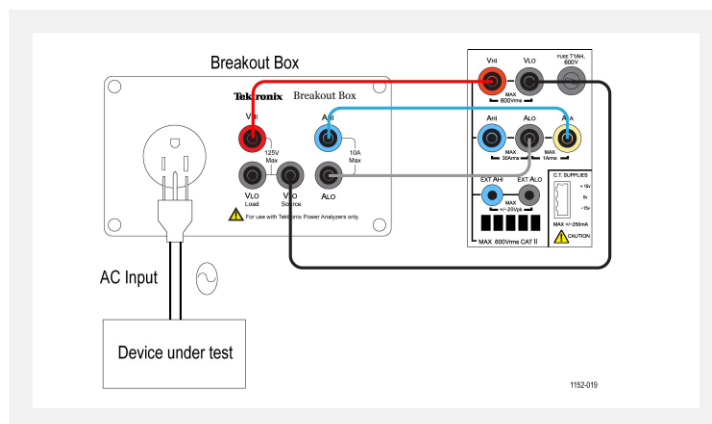

Figure 4-2.
1. Connect the DUT using Tektronix BB1000 Breakout Box (BB1000.) See wiring diagram Figure 4-2.